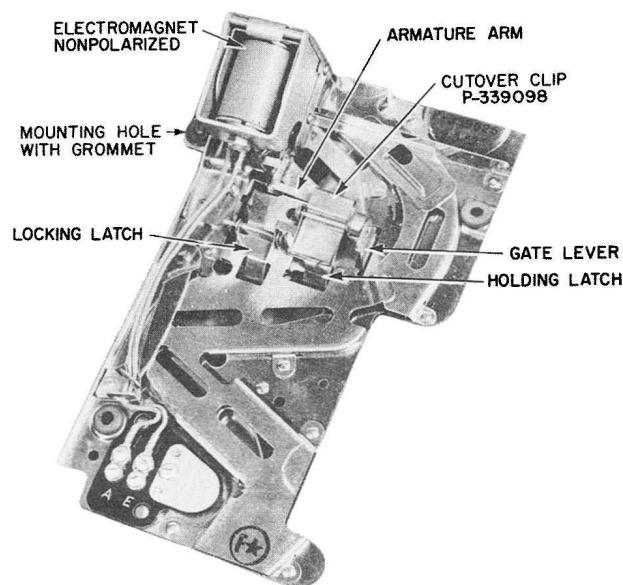

Fig. 12 — Prepay Steel Coin Chute (Equipped with Cutover Clip for 5-Cent Service)
- (1) Place coin relay shield on coin relay.
- (2) With upper housing locked in place and handset off-hook, deposit nickel. Nickel shall be held at holding latch. Lower switch-hook slowly. Coin shall drop into coin return. Make test five times.
- (3) If coin collector is equipped with washer reject and coin release mechanism, test with handset off-hook. Deposit nickel. Nickel shall be held at holding latch. Operate pushbutton slowly. Nickel shall be released by gate and drop into coin return. Make test five times.
- (4) With handset off-hook, deposit nickel. Nickel shall be held at holding latch. Deposit second nickel. Second nickel shall release first nickel and permit both coins to pass through coin chute, strike gong, and trip trigger as they drop into hopper. Dial tone shall be heard at dial stations, or operator shall answer at manual stations. Deposit third nickel. Third nickel shall pass through coin chute, strike gong, and reach trap in coin hopper.
- (5) At dial stations, when dial tone is heard, dial any digit except 1 to break dial tone; then hang up handset. Coins shall drop into coin return on hang-up. At manual stations, when operator answers, request that coins be returned.
- (6) With handset on-hook, deposit dime. Dime shall pass through coin chute, strike gong twice, and trip trigger. Dial tone or manual operator shall be heard after handset is removed from switchhook.
- (7) With handset off-hook, deposit dime. Dime shall pass through coin chute, strike gong twice, and trip trigger bringing in dial tone or manual operator.
- (8) With handset on-hook, deposit quarter. Quarter shall be stopped by the open gate. Remove handset from switchhook. Gate will close and quarter will release and strike gong. Dial tone or manual operator should be heard.
- (9) With handset off-hook, deposit quarter. Quarter shall pass through coin chute, strike gong, and trip trigger bringing in dial tone or manual operator.
- (10) If cutover clip is used for 5-cent operation, initial nickel deposited shall not be held at holding latch. All other tests are the same as above (see Fig. 12).